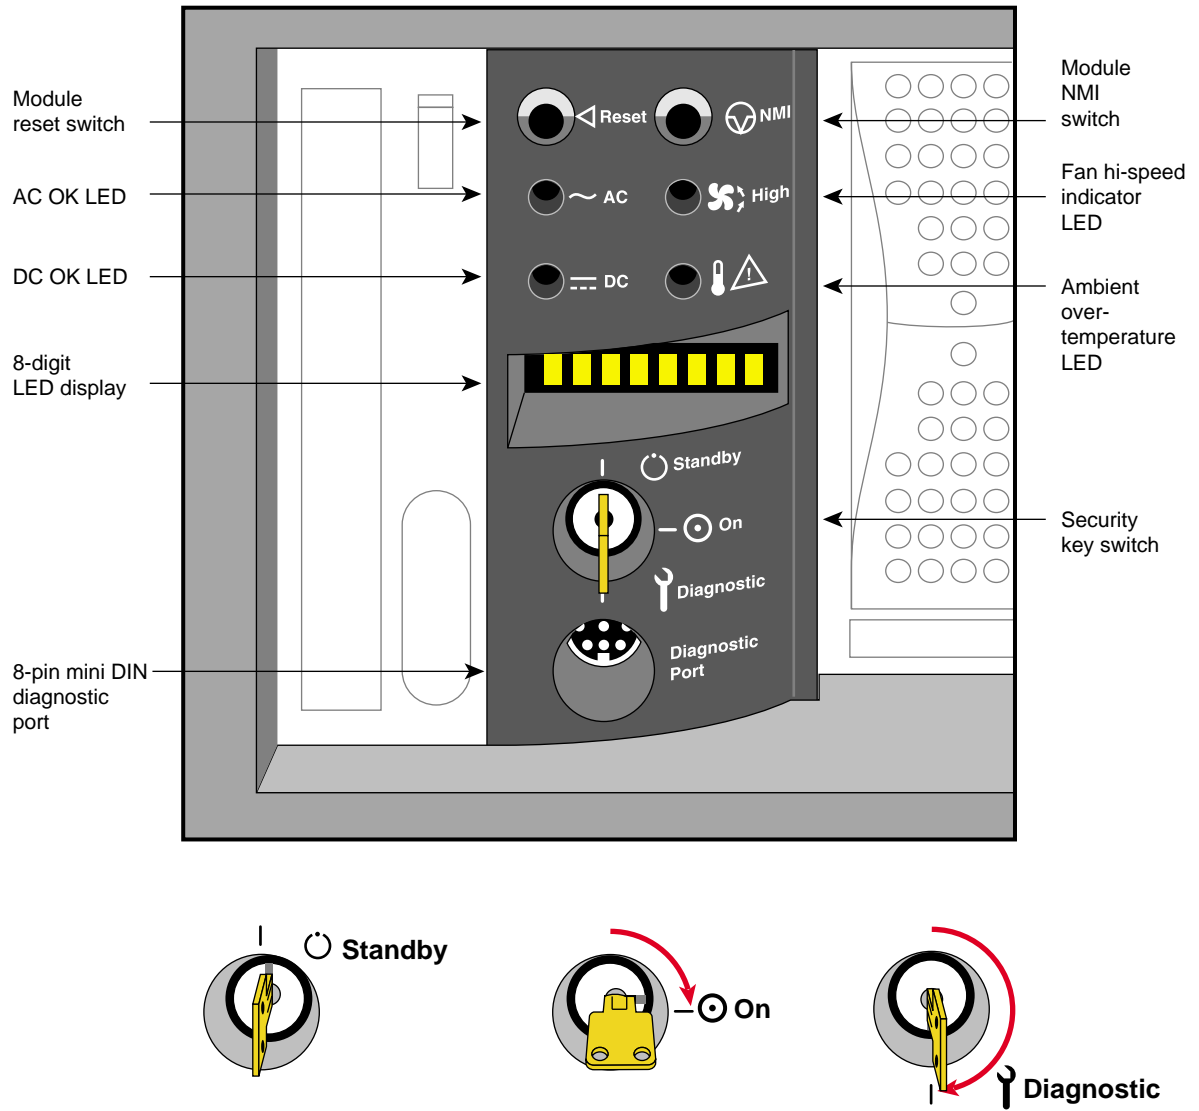

Figure 3-5 MSC Keyswitch and Front-Panel Controls
4. After you turn the MSC's switch to the On position, watch the LED panel for the [SYS OK] message. See Figure 3-5 for the keyswitch and other front panel switch locations.